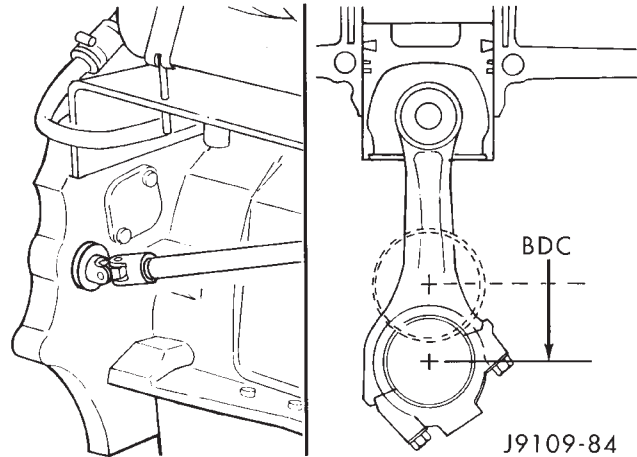

Fig. 78 Piston/Rod Assembly at BDC
(4) Bar the crankshaft so the rod journal for the piston to be installed is at BDC (Bottom Dead Center) - (Fig. 78).